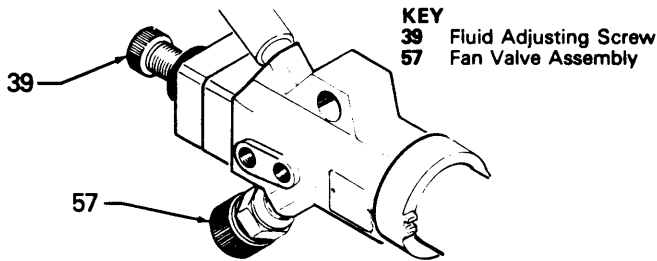

Fig 4
5. For fine adjustment, use the fluid adjusting screw (39) located at the rear of the gun. See Fig 4. Turn the knob *clockwise* to reduce the amount of fluid being sprayed, and *counterclockwise* to increase the amount being sprayed.
7. Use the fan valve (57) to change the shape of the spray pattern. See Fig 4. Turn fan valve knob *counterclockwise* for a wide pattern and *clockwise* for a solid, round pattern.
4. Note the position of the fluid adjusting screw (39). See Fig 4. Turn the fluid adjusting screw to relieve spring tension on needle assembly.